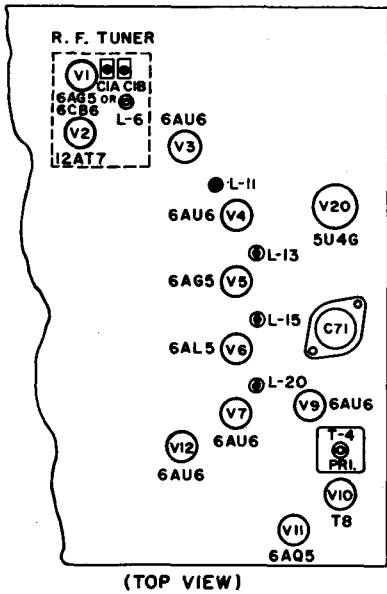

Fig. 2 — Sparton
**Picture i-f instability (see Fig. 2).**